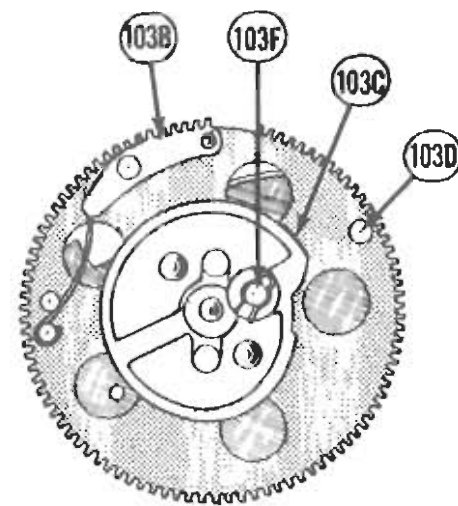

Figure 7
As the cycling gear revolves, the lifting lever (115) is pivoted, due to the cam roller on lever (115) following the contour of cam (103C), see Figure 7. This, in turn, through its connected levers, closes the muting switch contacts (82) and causes the lifting crank (84) to engage the lifting plate and spindle assembly (83), thus raising the tone arm from the record.
At this position of cam rotation, pin (103F), see Figure 7, has reached the end of the slot in the coupling link (102), and with continued cam rotation, the coupling link (102) is pushed back. This, in turn, actuates the link (46) and pawl (44), thus selecting the bottom record and dropping it to the turntable. At the same time, the 45 RPM spindle actuating lever assembly (114) is pivoted by the same pin (103F). This operates the 45 RPM spindle when used.